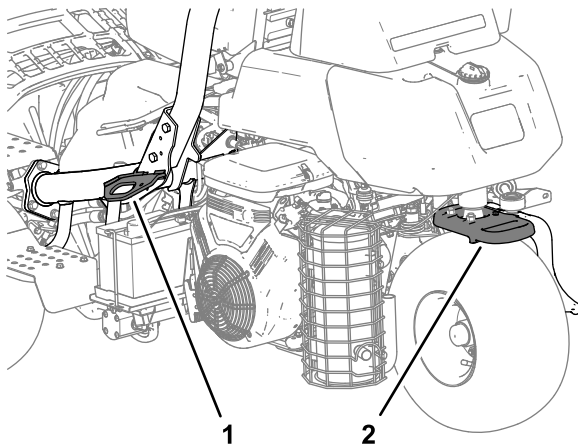

Figure 29
- Tie the machine down securely using straps, chains, cable, or ropes. Both front and rear straps should be directed down and outward from the machine (Figure 29).